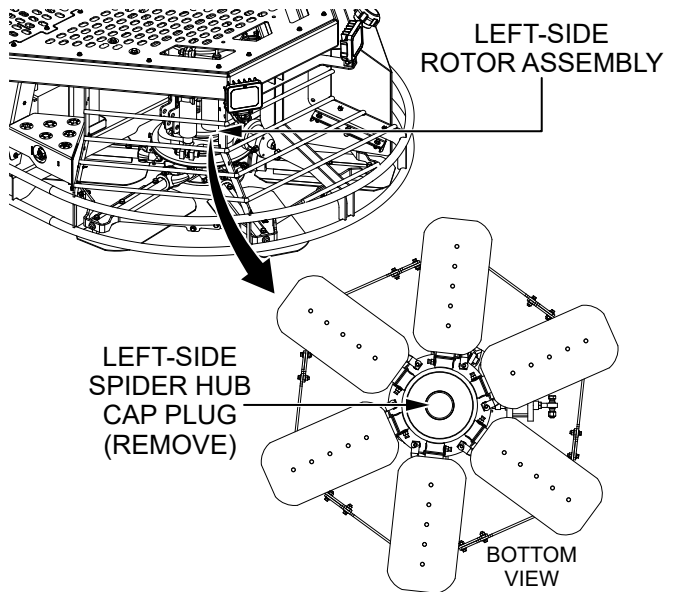

Figure 58. Remove Left-Side Spider Hub Cap Plug
2. Remove the left-side **spider hub cap plug** (Figure 58) and set it aside.